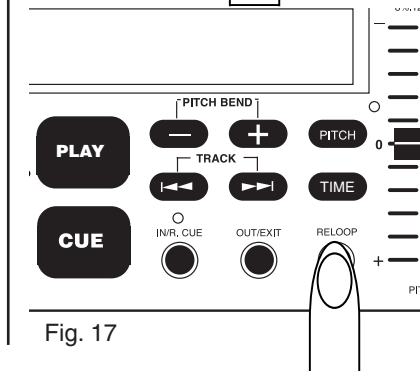

Fig. 17
- (1) To replay the loop, press the **RELOOP BUTTON**. The **IN/LOOP** and **OUT/LOOP** LEDs will again begin to flash indicating SEAMLESS LOOP MODE has been activated (Fig. 17).
- If a SEAMLESS LOOP has not yet been created, follow instructions above (SEAMLESS LOOP PLAY) to create a SEAMLESS LOOP. If a SEAMLESS LOOP has already been created, press the **RELOOP BUTTON** to reenter the SEAMLESS LOOP mode (Fig. 17).